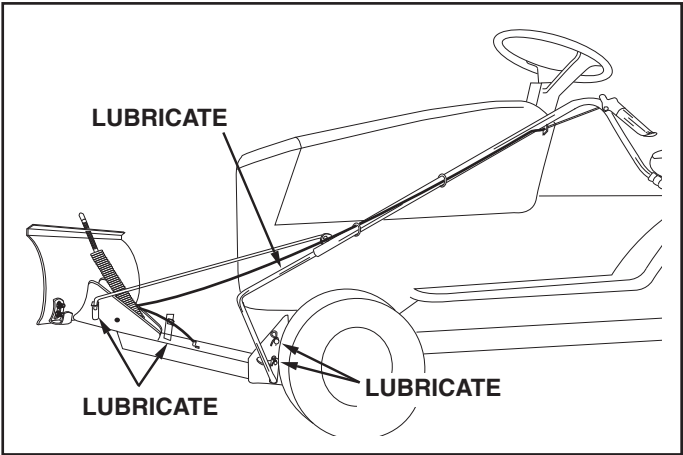

FIGURE 23
- Lubricate all pivot points to help maintain proper operation of blade. Apply a light coating of grease to the straight upper portion of the lift handle rod. See figure 23.
- Lubricate all pivot points and all points shown in figure 23, page 13 in the maintenance section.